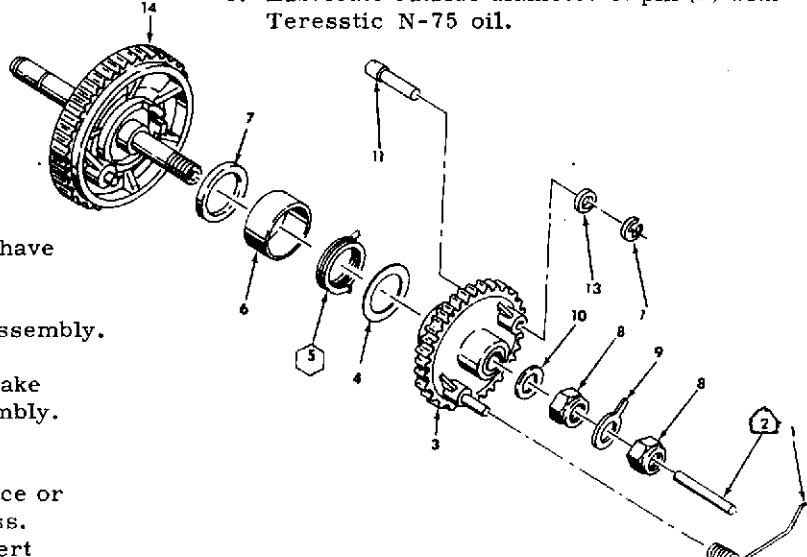

Figure 3-20. FEED SPROCKET CLUTCH COMPLETE
8. Clutch Complete, Feed Sprocket (Fig.3-20)
- Lubricate spring (5) with 009 Lubricant.
- Adjust nut (8) to obtain .002 to .010 end play on gear and hub (3).
- Lubricate outside diameter of pin (2) with Teresstic N-75 oil.